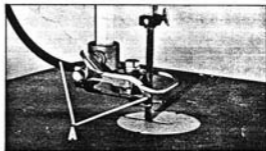

Fig. 18
The air blower (A) Fig. 18, keeps the cutting line free of nuisance dust and operates off the crankshaft. If blower does not function properly, proceed as follows:
2. Examine nozzle (A) Fig. 18, on the guide and see that it is clear.